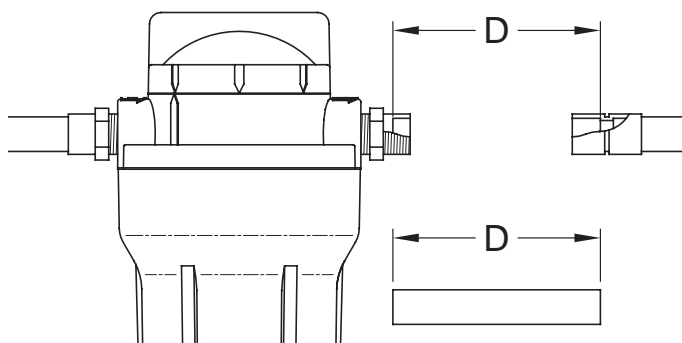

Figure 13
8. Turn a sweat adaptor fitting into the other side of the filter head and hand tighten only. Using a tape measure or ruler, measure the distance "D" as shown in Figure 13. Mark this same dimension on a length of copper pipe. Cut the length of pipe.